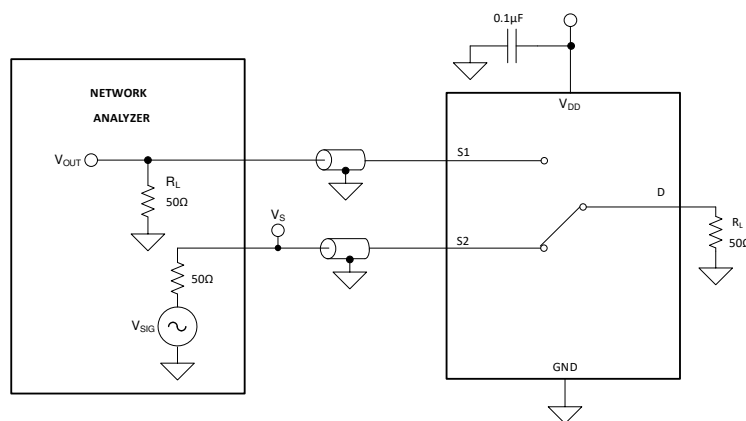

**Figure 13. Off Isolation Measurement Setup**
Off isolation is defined as the ratio of the signal at the drain pin (D) of the device when a signal is applied to the source pin (Sx) of an off-channel. Figure 13 shows the setup used to measure, and the equation used to calculate off isolation.